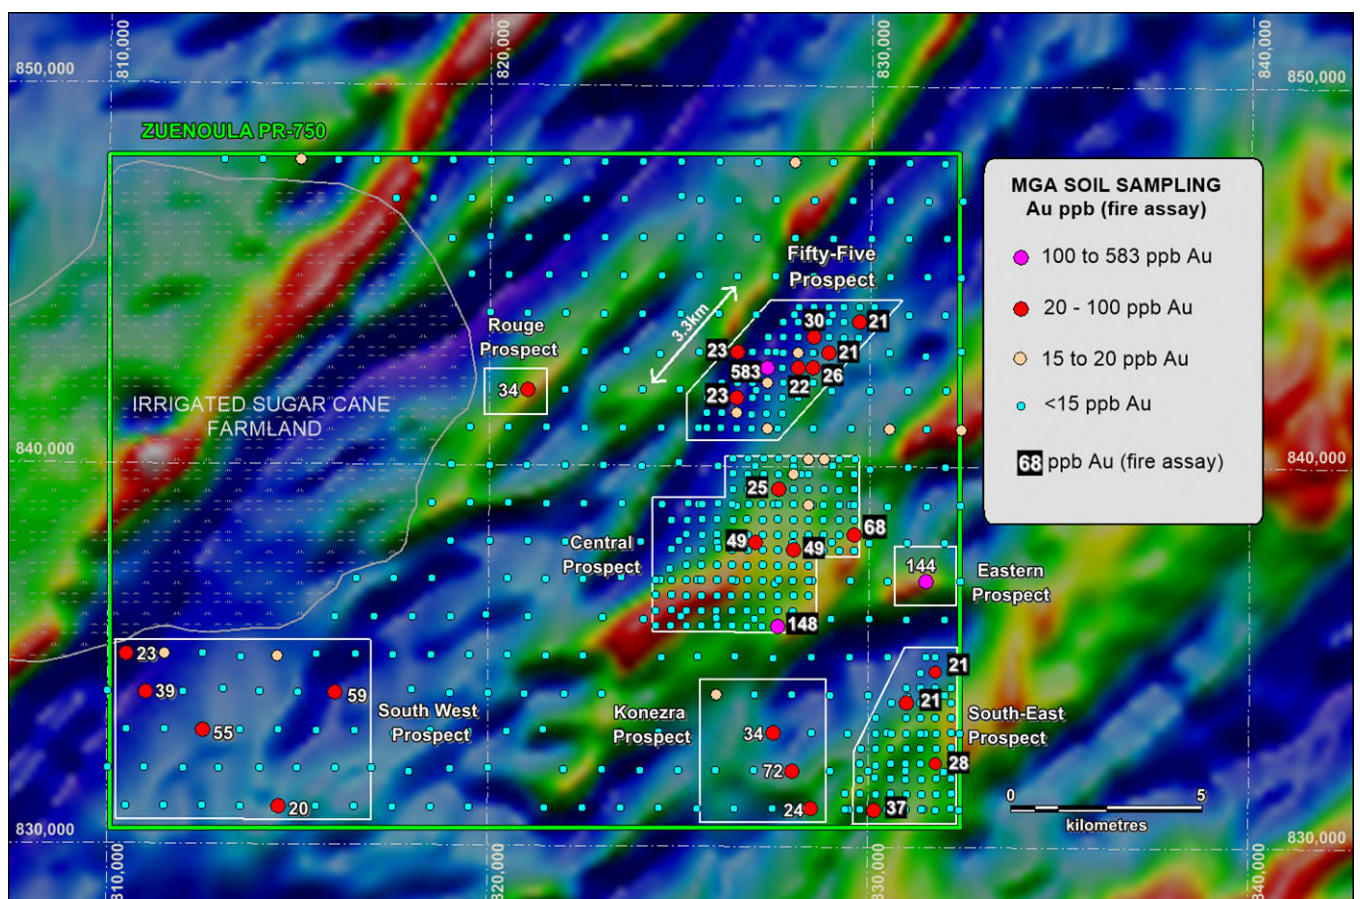

Figure 1. Zuénoula soil sampling progress and exploration prospects (7) on aeromagnetic image (RTP)
**MetalsGrove Mining Limited** (ASX: MGA) (“**MetalsGrove**” or the “**Company**”) is pleased to announce that fire assay gold results received from soil sampling programs completed on the **Zuénoula permit** (PR-750) in Côte d’Ivoire **defined seven gold prospects across the permit area** (Figure 1).
At the Central Prospect, located approximately 1 km south of Fifty-Five, a **148 ppb Au soil anomaly has been identified within a broader ~20 km2 zone of scattered >20 ppb Au anomalies** (Figure 1).